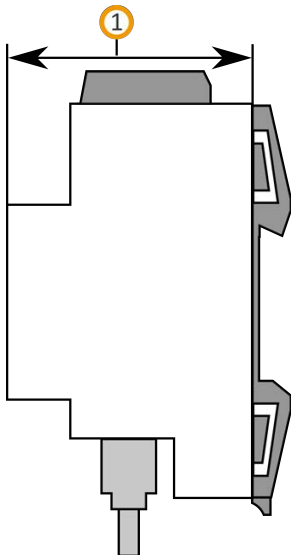

Figure 7: Device depth
Pay attention to the device depth (see figure 7, item 1): DRA Plus, 74 mm.